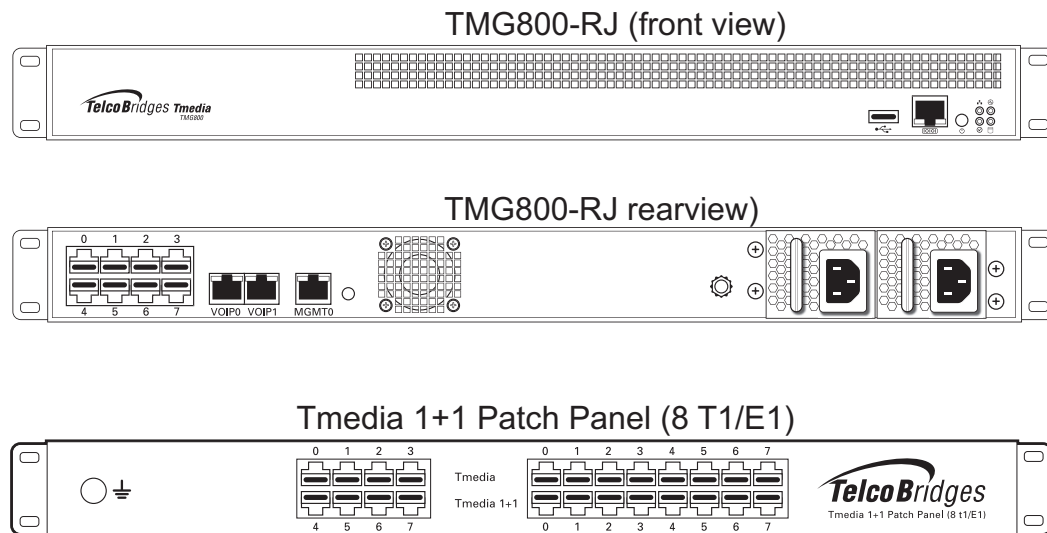

Figure 1.1 TMG800 and TMG800 +1 Front and Rear Views
- Recognizing your Tmedia 1+1 system (shown in figure 1.1)
The installation and setup a Tmedia system (see figure 1.1 on page 2) is described by a series of topics in the following order:
- One (1) TMG800-RJ. See figure 1.1 on page 2.
- One (1) set of mounting brackets and screws, used to mount the TMG800 to a 19" rack.
- One (1) DB-9 to RJ-45 adapter to interface the serial port of your computer with the RJ-45 port of the TMG800.
- Three (3) CAT5 Ethernet straight cables (male-male), 3 meters in length.
- One (1) Important Notice (two-sided document containing pertinent product serial numbers, and other important information).
- One (1) Product Warranty .
- One (1) packing slip.
- One (1) Quick Installation Guide (two-sided document that provides a pictorial view of the equipment setup).
- Two (2) AC or DC power cables
- One (1) TMG800+1 unit (TMG800-RJ). See figure 1.1 on page 2.
- One (1) set of mounting brackets and screws, used to mount the TMG800+1 to a 19" rack.
- One (1) DB-9 to RJ-45 adapter, to interface the serial port of your computer with the RJ-45 port of the TMG800.
- Three (3) CAT5 Ethernet straight cables (mal-male), 3 meters in length.
- One (1) Product Warranty.
- One (1) Quick Installation Guide (two-sided document that provides pictorial view of the equipment set-up).
- Two (2) AC or DC power cables.
- The associated 1+1 patch panel for your TMG800+1. See figure 1.1 on page 2 for further details.